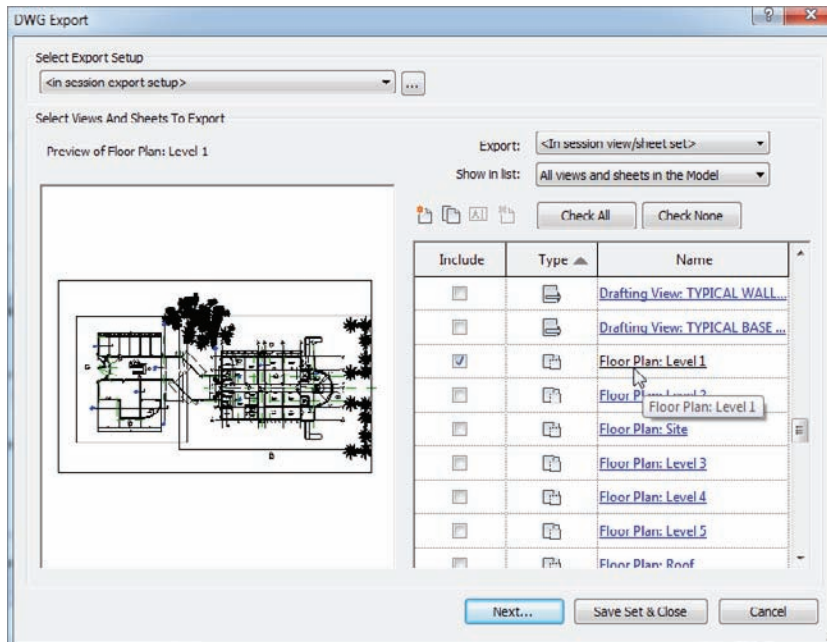

FIGURE 20.26 Choosing the items to export
5. Scroll down to the bottom of the list, and make sure your Level 1 floor plan is selected (see Figure 20.26). You may select any others as you please.